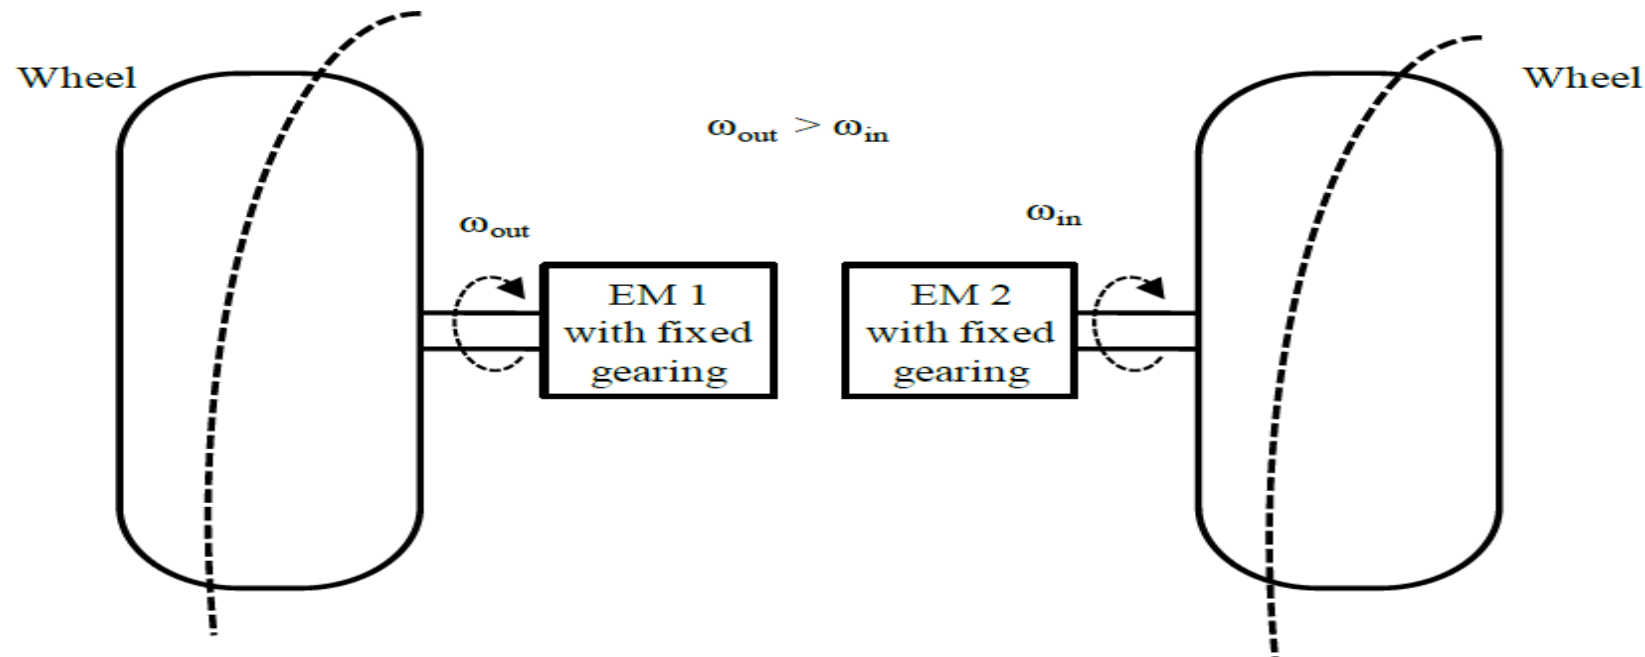

Figure 5: Differential action [1]
- ❖ In **Figure 5**, dual motor drive with an electronic differential is shown.